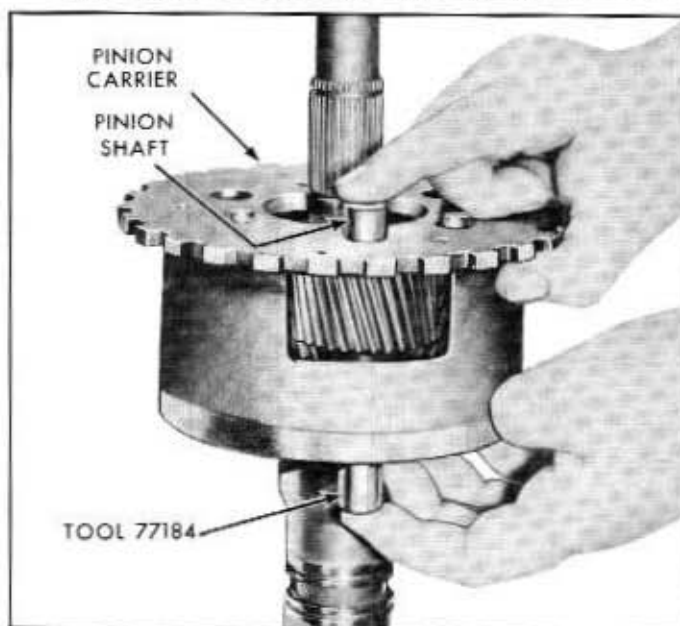

Fig. 7A-29—Short Pinion Shaft Removal—(60C-4429)
4. With the tool shown in figure 7A-29, push a short pinion shaft out of the carrier until the tool clears the top of the gear spacer. Now, slide the short pinion and its upper and lower thrust washers out